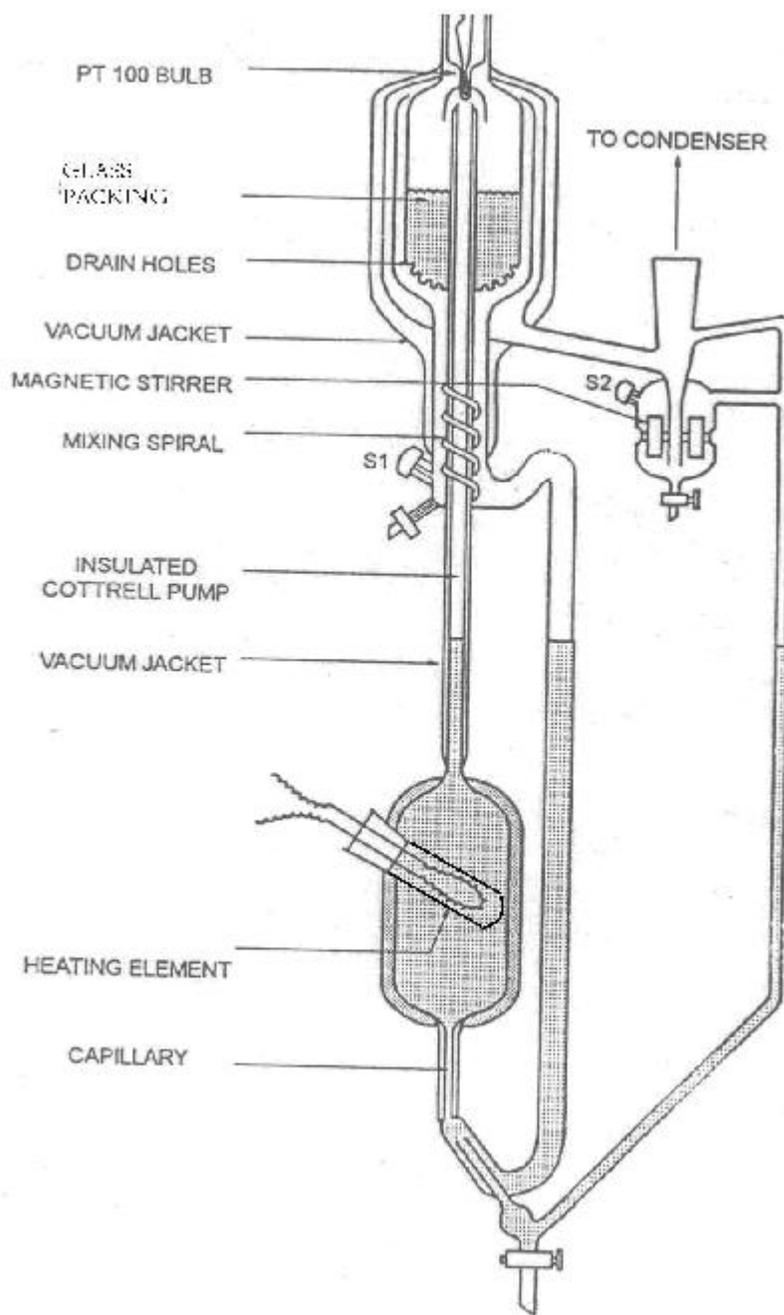

Figure 33.1: Schematic diagram of VLE setup
The apparatus shown in Figure 33.1 is known as a vapour-liquid equilibrium still and has two essential parts: (1) Vaporizer, (2) Flash chamber or Equilibrium chamber. The binary liquid mixture is vapourized by an electrical heating coil in the vaporizer at a slow rate. The vapour from this rises to the equilibrium chamber. Vapour and liquid equilibrium at the temperature and pressure